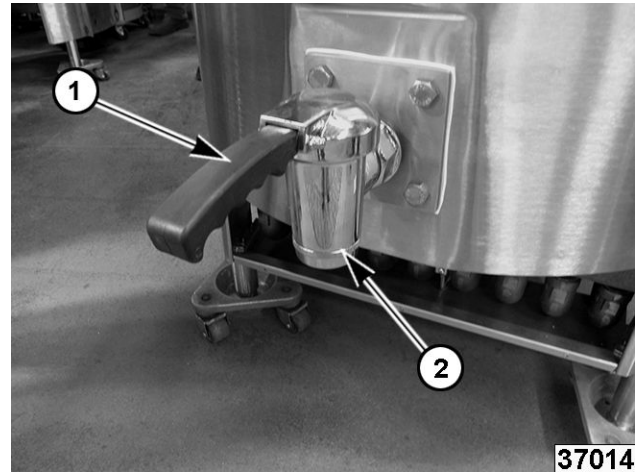

Fig. 11
1. Lift up handle (1, Fig. 11).